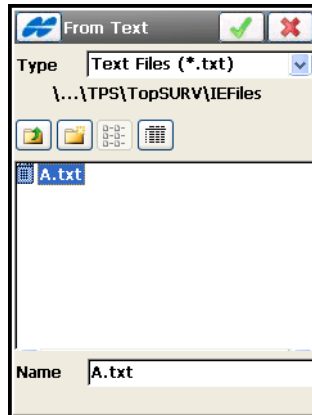

Figure 5-20. Import From Format
- **Next**: opens the **From Text** screen (Figure 5-20 on page 5-18).
The **From Text** screen browses directories from which to select the file to import data (Figure 5-20).